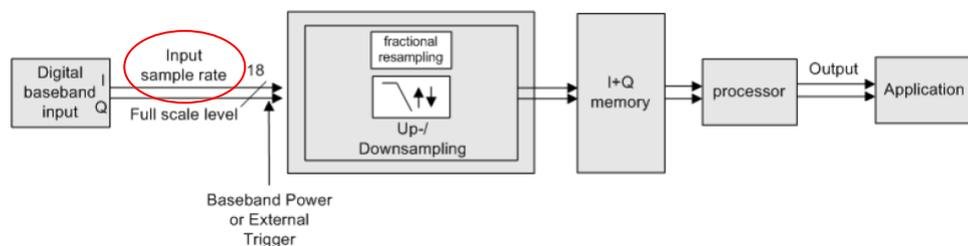

Figure 39: Digital baseband acquisition hardware of the R&S FSV
Figure 39 shows a block diagram of the baseband acquisition hardware of the analyzers.
- ▶ Click *Data Acquisition* and enter your *Sample Rate* for the fractional resampling unit, see Figure 39 on page 38.